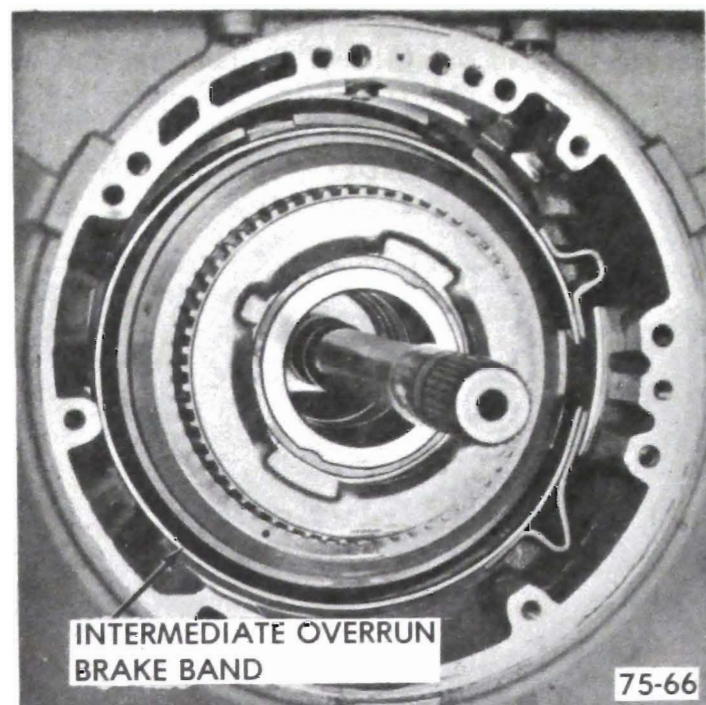

Figure 75-96
5. Remove intermediate overrun brake band. See Figure 75-96.